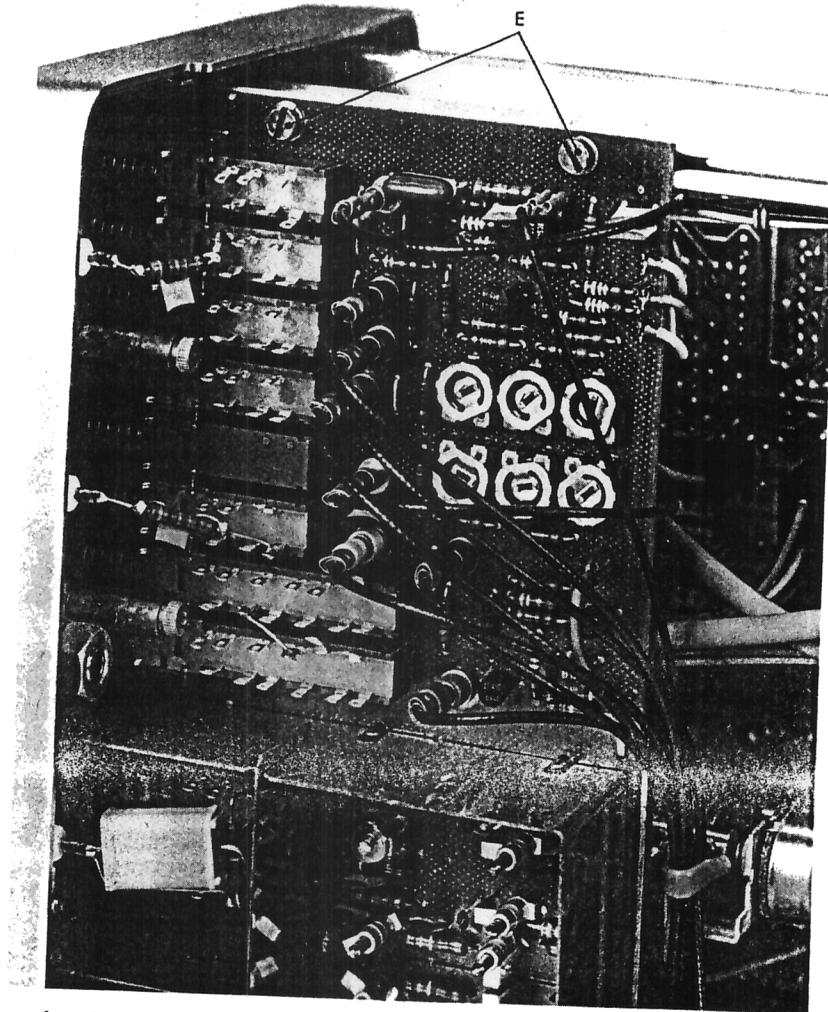

Fig. 3.26. Removing the front assembly (screws E).
- Remove the two screws E that hold the attenuator to the frame bar (Fig. 3.26).